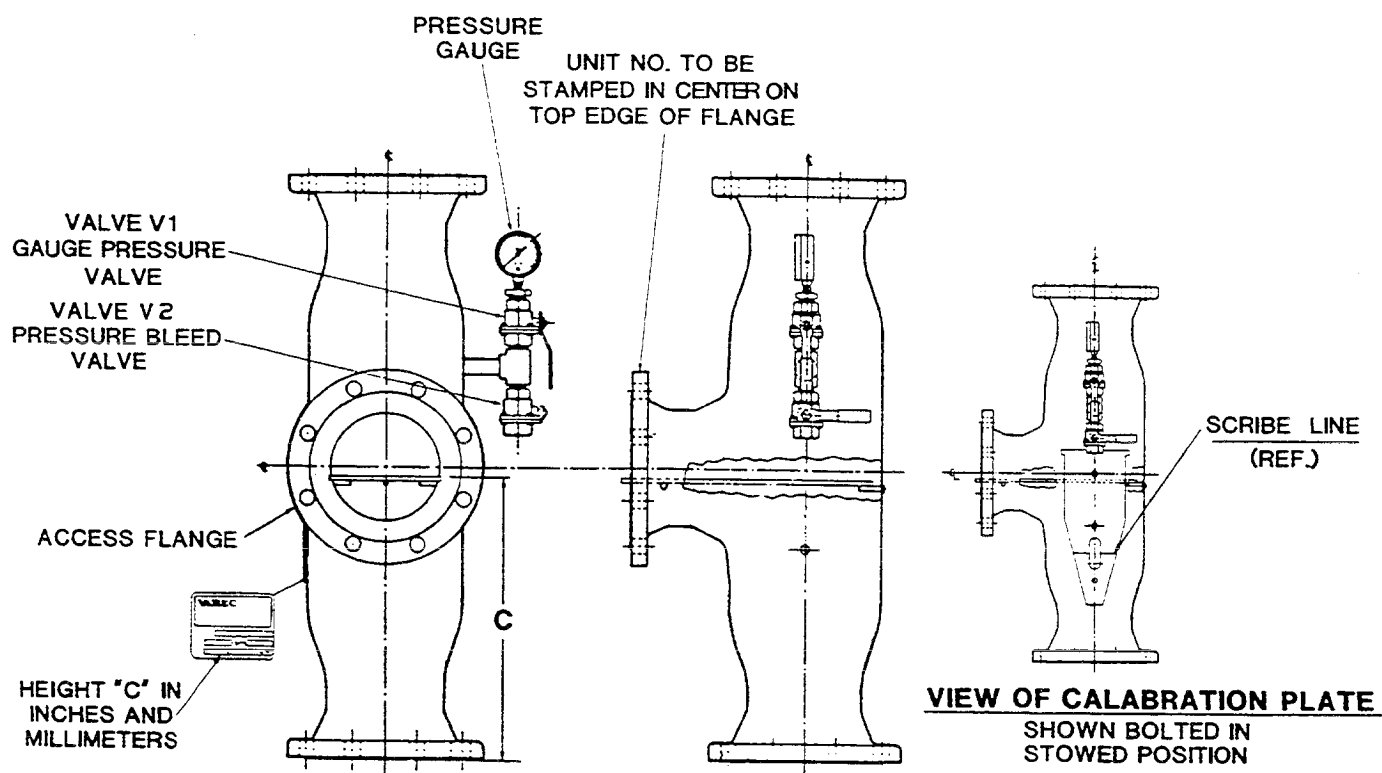

Figure 4-1 Calibration Chamber
1. Pressure valve V1 (refer to Figure 4-1, Calibration Chamber) must be in the open position. If the pressure gauge indicates a pressure value, slowly open bleed valve V2 and allow the pressure to bleed to zero. Both valves, V1 and V2, must be in the open position throughout the calibration procedure. The isolation valve must be in the fully closed position.